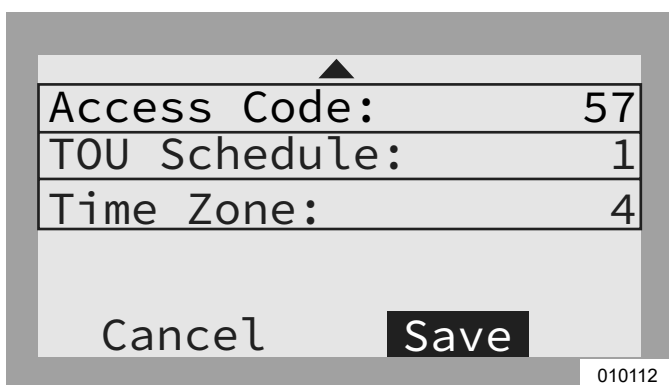

Figure 6-14. Configuring TOU Schedule (4 of 4)
- See Figure 6-14. To commit changes to all entries, highlight Save and press the center button.